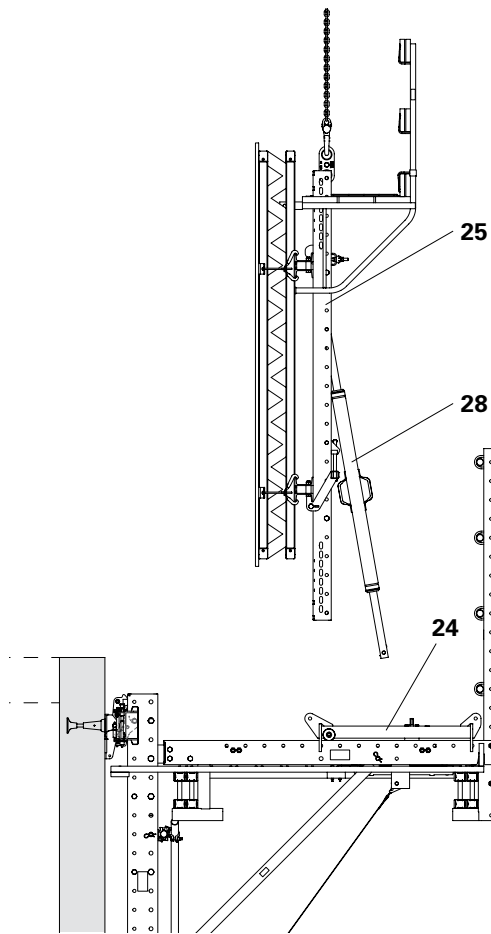

Fig. C3.04
3. Align the formwork and then move to the bracket unit. (Fig. C3.04)